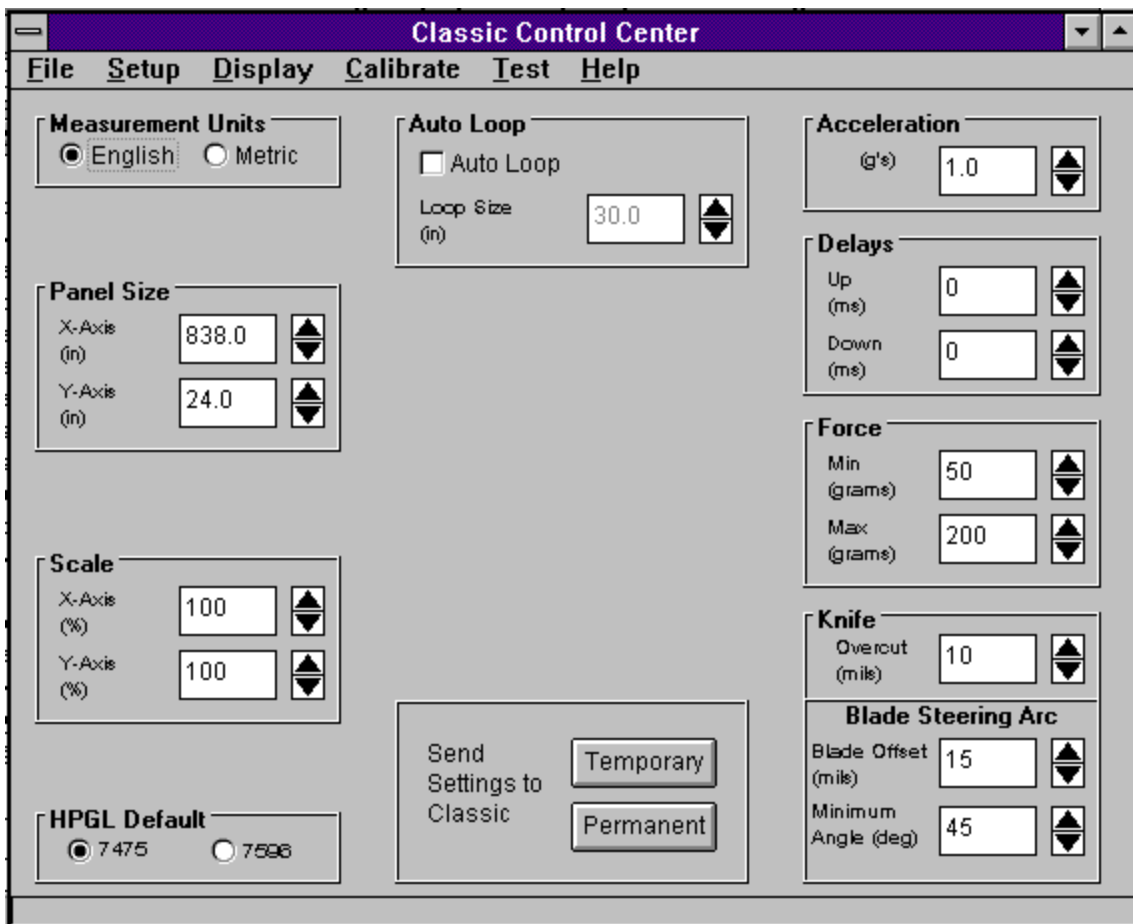

Figure 2-11. The Control Center Main Screen.
9. You will see a Classic Control Center screen similar to figure 2-11.
You will see a Super 88 or Classic Control Center screen similar to Figure 2-11.